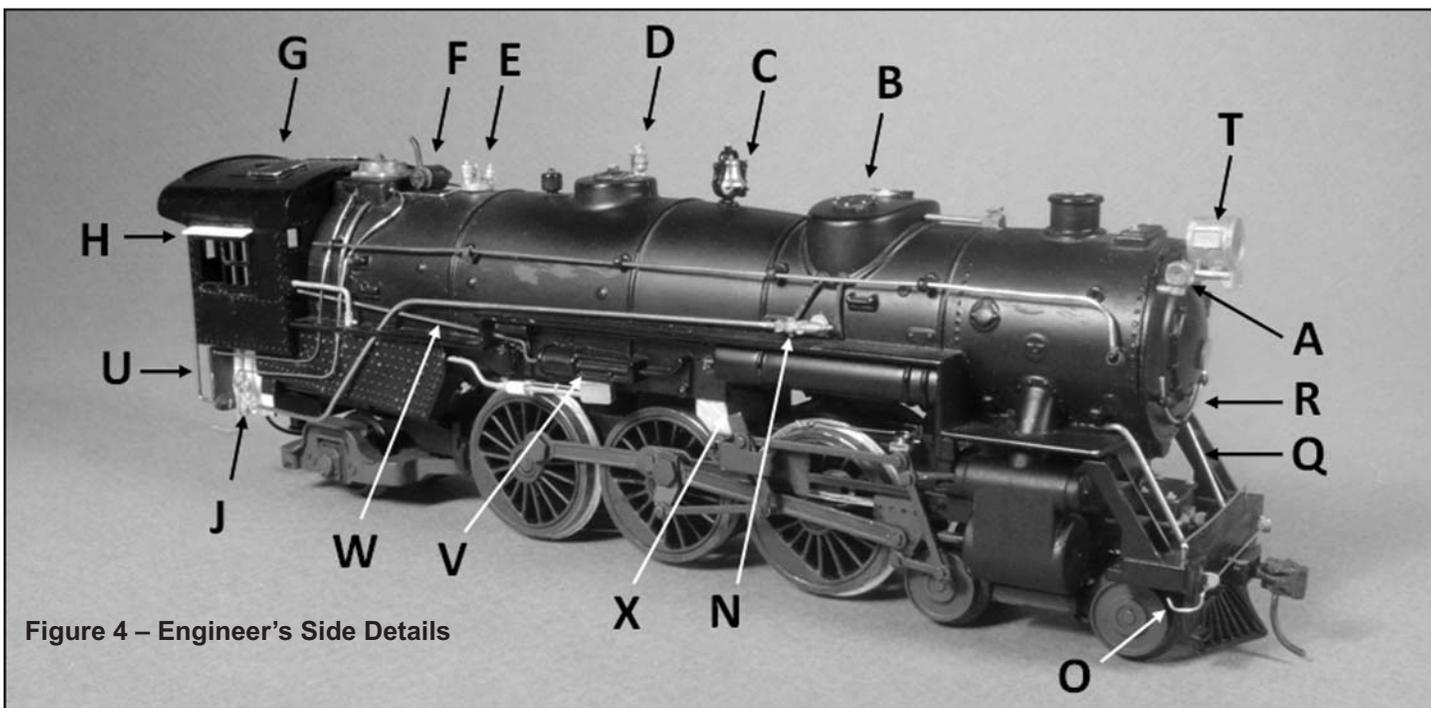

Figure 4 – Engineer's Side Details
The injector (J) and check valve (N) installation is the same on this side (Figure 4) as the fireman's side. Photos suggest an additional line running down from the top of the boiler the turning back under the cab. I mod-